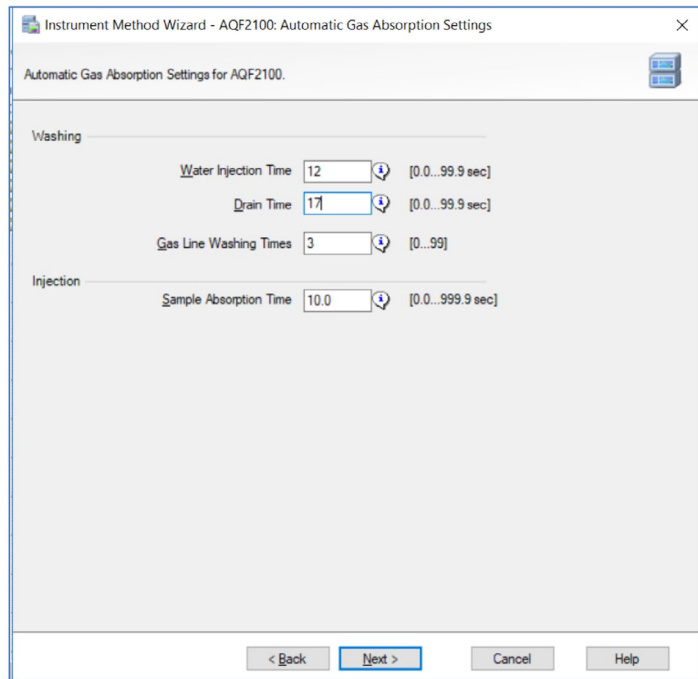

Figure 17. Creating the Instrument Method: Automatic gas absorption settings
10. Enter the Gas Absorption conditions: Water injection time: 12; Drain time: 17; Gas Line Washing Times: 3; Sample Absorption Time: 10 (Figure 17).